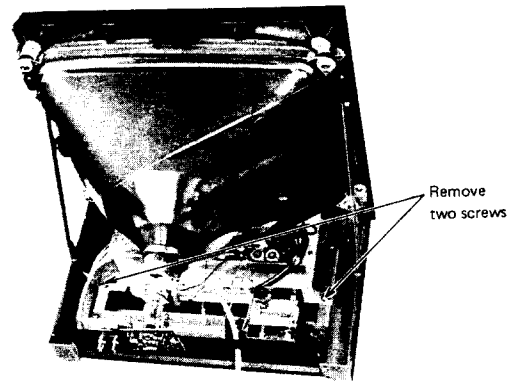

Fig. 5
- (1) Remove knobs from the front of the monitor.
- (2) Remove two screws on the video/deflection circuit board. (Fig. 5)